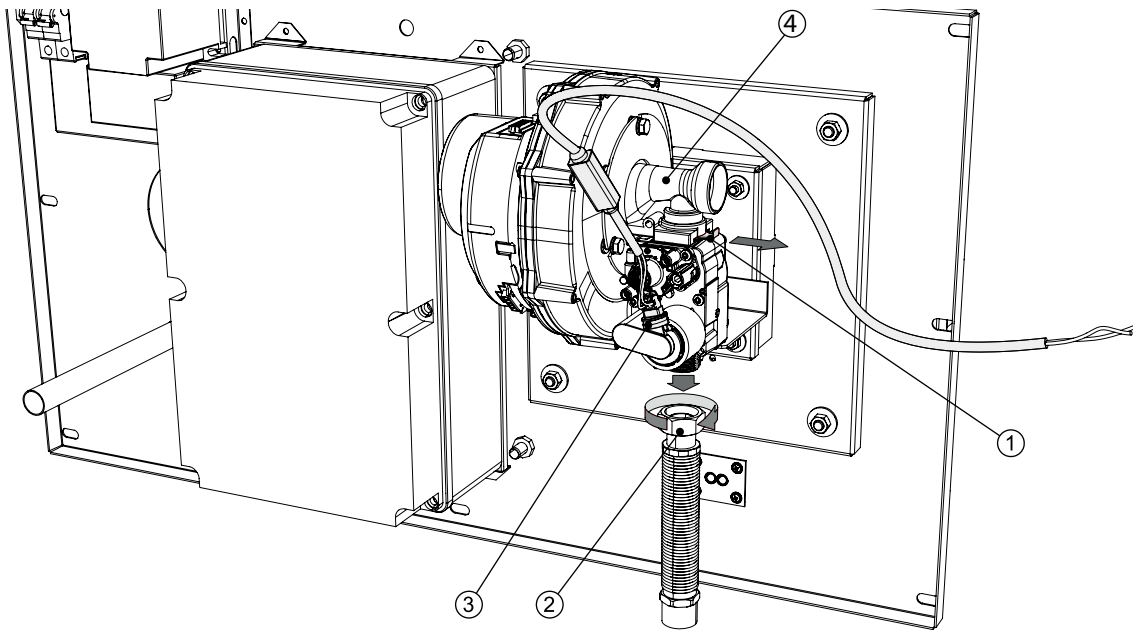

Fig. 8.2
3. Disconnect the power supply cable (3), fig. 8.2.
4. Unscrew the hose coupling (2).
5. Remove the locking fork (1) holding the solenoid valve so that it does not fall.